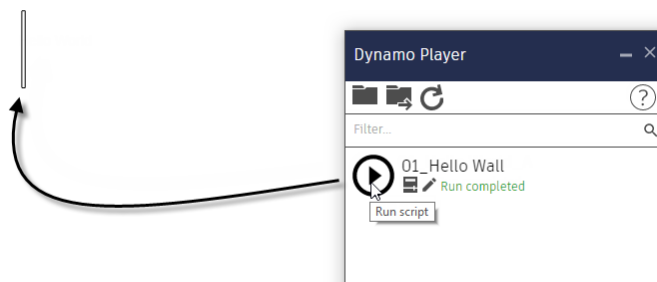

FIGURE 4
6. Click the play button next to: **01_Hello Wall** (see Figure 4).